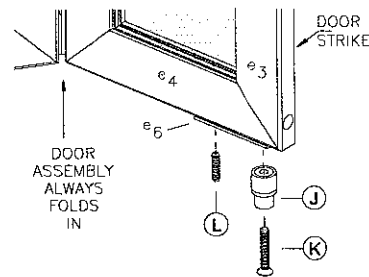

figure 4
6. Strike side was determined in step 5 . . . insert Strike Post (D) into the appropriate Wall Jamb (C), magnet should be facing toward exterior of enclosure, see exploded view - sheet 2.
7. Before proceeding with Door Assembly installation, note that the Door Assembly (E) must always fold in toward interior of shower enclosure (see explode view - sheet 2). Position Door Assembly on floor the way it will be installed on enclosure (remember, unit must fold into enclosure). Install Bushings (J), Bushing Screw (K) and Set Screw (L) onto appropriate Slide Piece (e6) as shown in figure 4. Before proceeding, make sure Pivot Bushing (J) pieces are Assembled as shown in exploded view - sheet 2.